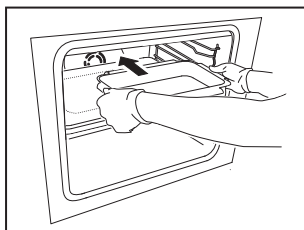

Fig. 4
1. Use both hands to place the cooking vessel on the induction plate (Fig. 4).